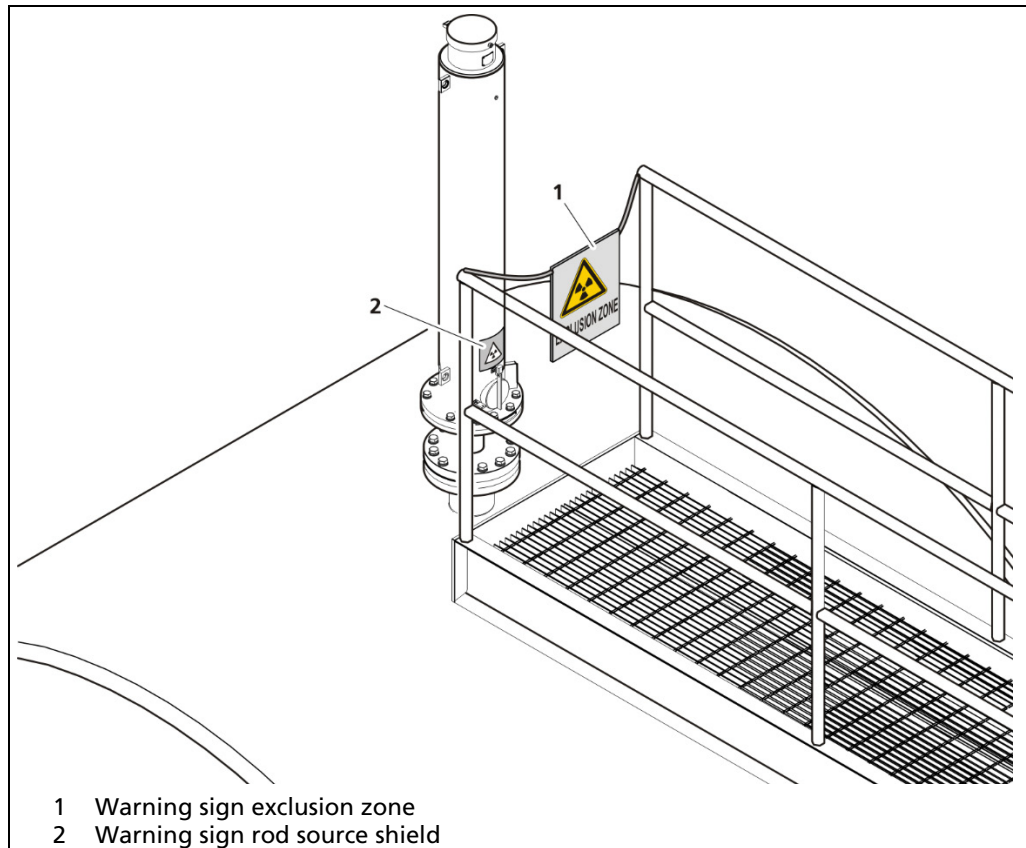

Fig. 11 Example marking
The warning sign (Fig. 11, item 1) indicates the beginning of the control area as long as the control area is outside the shield.
If the control area is within the shield, then the radiation warning sign (Fig. 11, item 2) already applied to the shield is sufficient. Fig. 11 shows an exemplary identification of the control area according to German law. Please observe the local legislation of the country of employment.